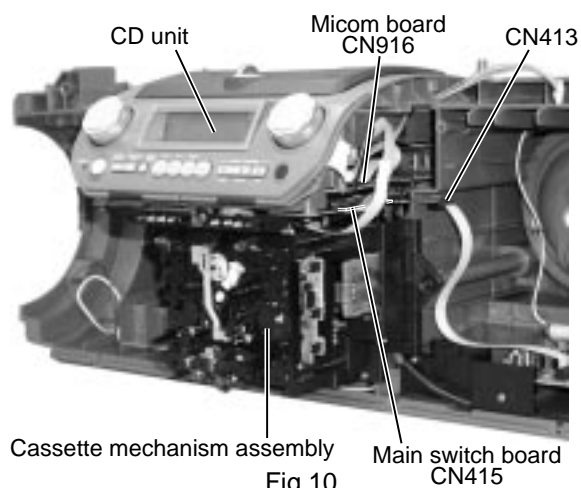

Fig.10
■ Removing the cassette mechanism assembly (See Fig.10 and 11)